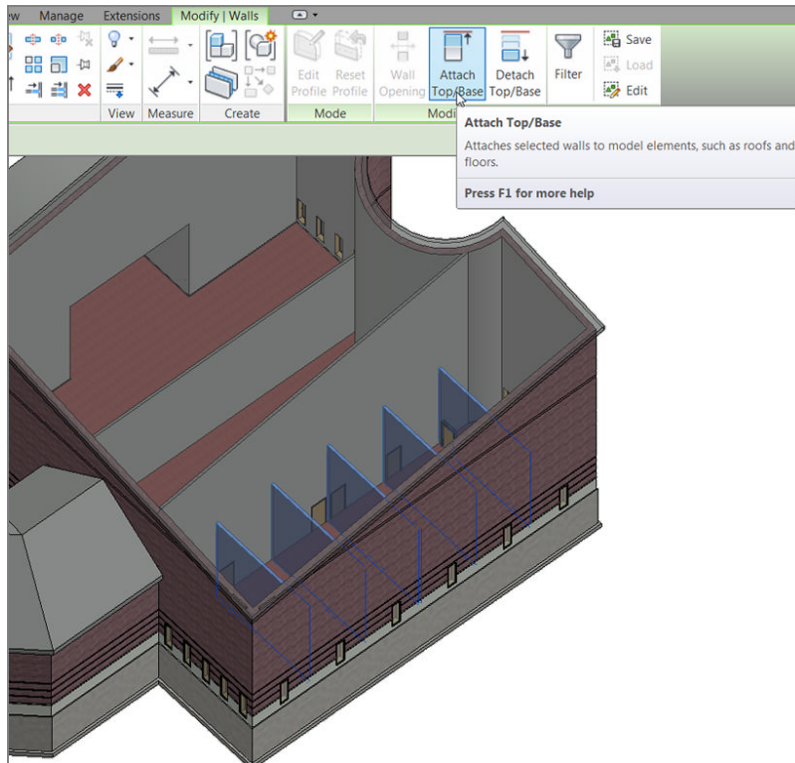

FIGURE 9.12 : Selecting the partitions
1. While still in a 3D view, select the partitions shown in Figure 9.12.